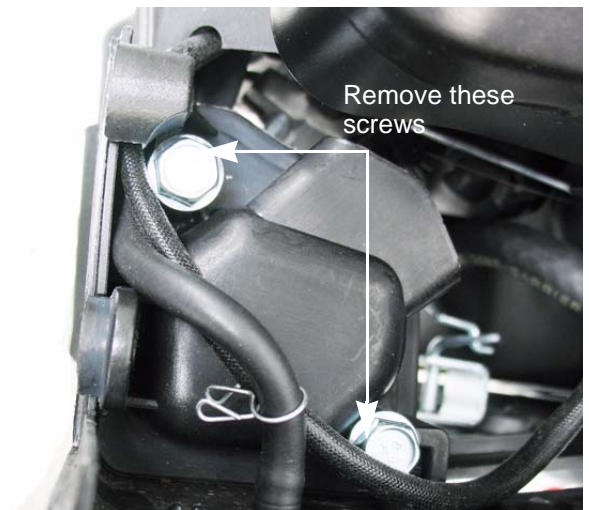

Figure 3.3
6. Remove the two screws that fasten the upper heatbox housing to the lower housing and lift out the upper housing. See Figure 3.3.